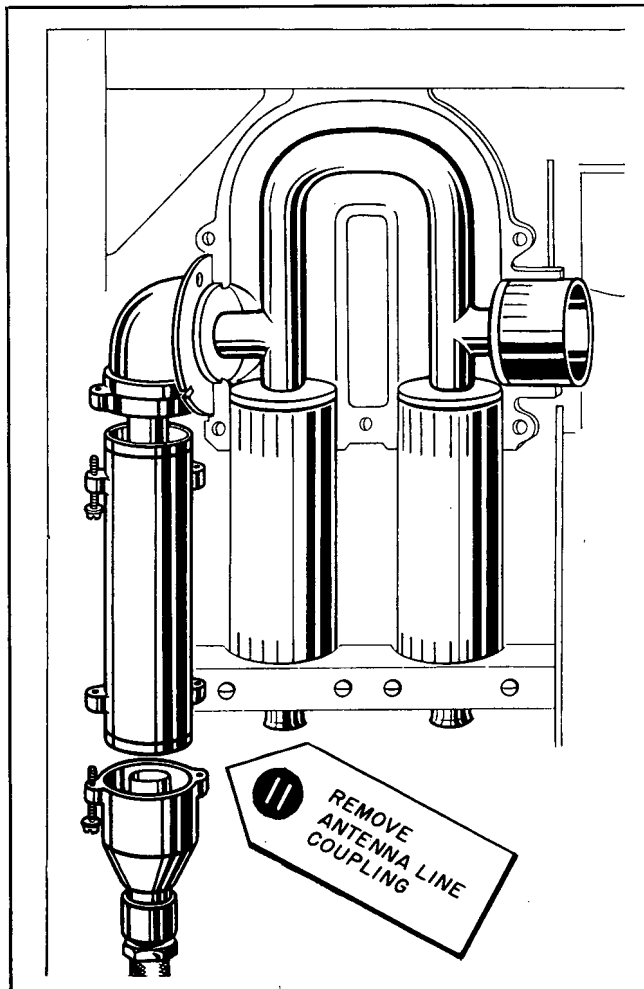
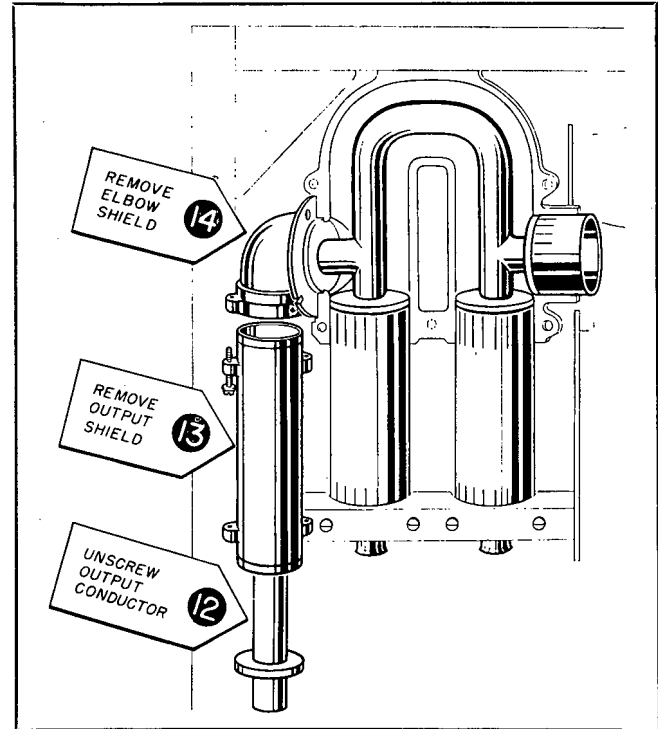

Figure 7-27. Disassembly of Antenna Line and Cable
Figure 7-28. Removal of Antenna Line
(4) Step 11 in Fig. 7-27, shows the removal of the antenna line coupling. As shown in the figure, the assembly screws are accessible beneath the coupling flanges. A long screwdriver is required for this operation. After the antenna line coupling has been removed, unscrew the center output conductor as shown in step 12 of Fig. 7-28. Then remove the output shield as shown in step 13. To remove the elbow shield shown in step 14 of Fig. 7-28 loosen the bottom screws that secure the bottom of the flange and completely remove the top screws. This permits the elbow shield to be removed. Since the inner conductor in the shield is still attached, the elbow shield must be correctly positioned in order for it to slide over the inner conductor.